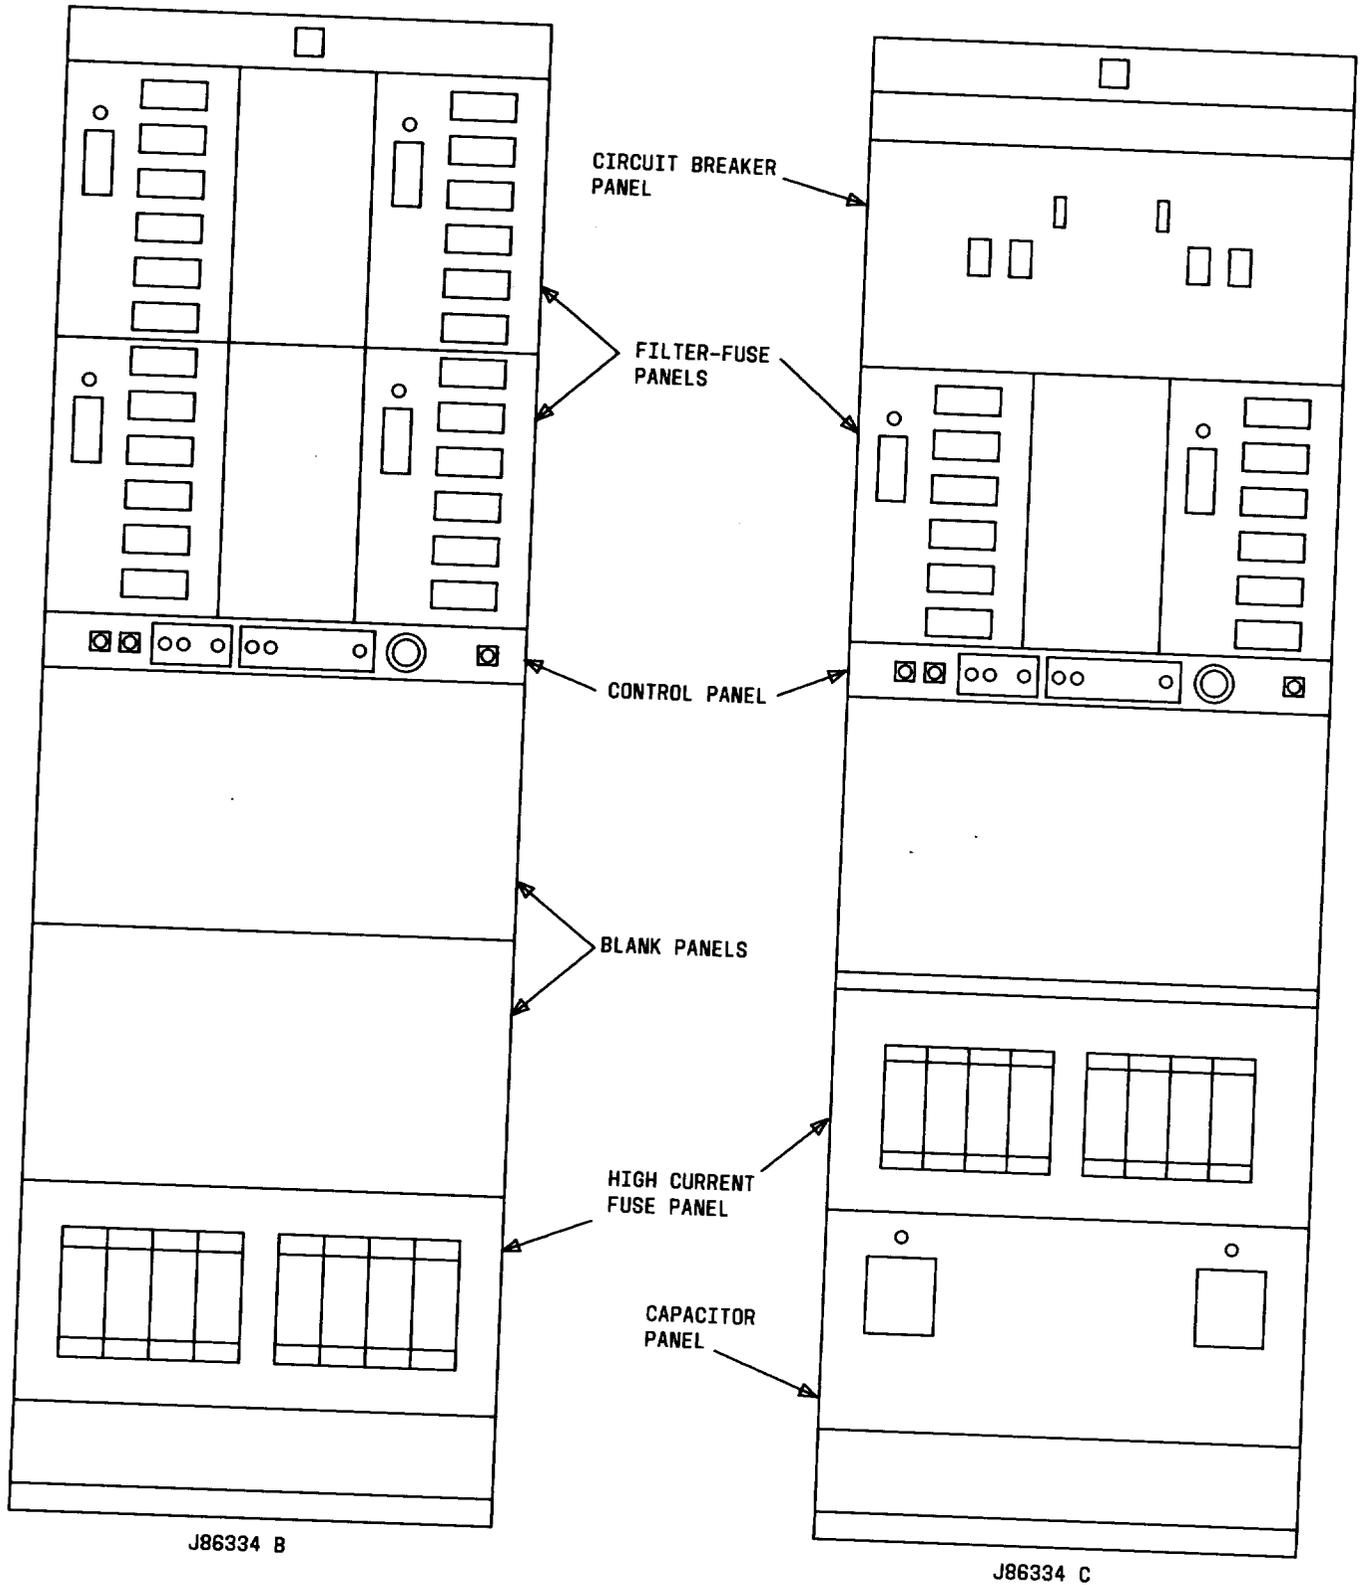

Fig. 1—J86334B and J86334C DC Power Distributing Frame — Typical
2.01 The J86334B and J86334C dc power distributing frames (Fig. 1) consist of a single bay cabinet assembly which is approximately 84 inches high, 26 inches wide, with four optional depths either of 12, 18, 21, or 24 inches. The basic frame includes stile strips, base covers with or without appliance outlets, a frame alarm, and protective rear doors. The frame is designed to accommodate a control panel and a combination of fuse, capacitor, or circuit breaker panels, depending on the desired configuration. Blank panels are provided to cover unused portions of the frame. Table B gives a listing of controls, indicators, and fuses used in the J86334B and J86334C dc power distributing frames.